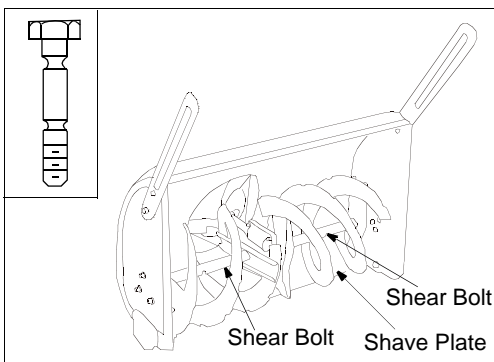

Figure 22
The augers are secured to the spiral shaft with two shear bolts and hex lock nuts. If you hit a foreign object or ice jam, the snow thrower is designed so that the bolts will shear. See Figure 22. Lock nuts cannot be threaded onto a bolt by hand. This type of nut is used where vibration occurs.
If the augers do not turn, check to see if the bolts have sheared. Two replacement shear bolts (shown in Figure 22 inset ) and hex lock nuts have been provided with the snow thrower. When replacing bolts, spray an oil lubricant into shaft before inserting new bolts.
- Remove the four carriage bolts, belleville washers and hex nuts which attach skid shoes to the snow thrower on two sides. See Figure 22.
- To remove shave plate, remove the skid shoe and the rest of hardware including carriage bolts, belleville washers and hex nuts which attach shave plate to the snow thrower housing. For location of shave plate, see Figure 22.